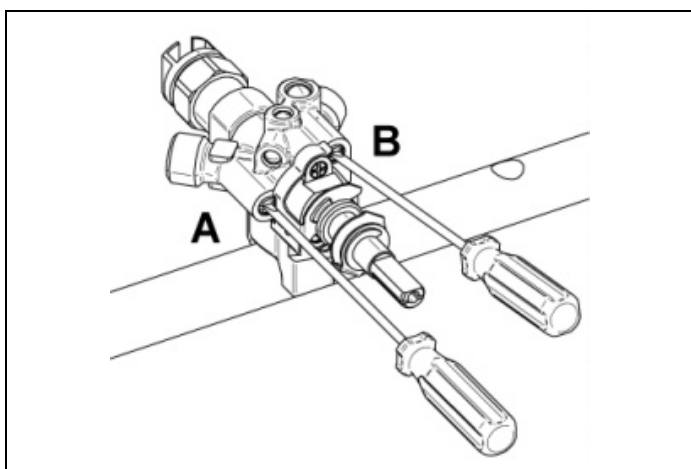

Fig. 15
- 4) For the tap that controls the Dual burner, the throttle screws are located on the tap body (Fig. 15), screw A regulates the outer crown while screw B regulates the inner screw.